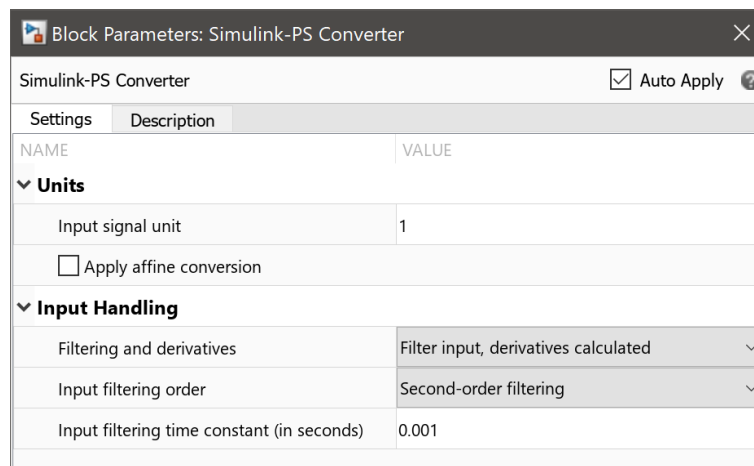

Figure 9: Simulink-PS Converter Parameters
11. Open the newly placed “Simulink-PS Converter” and change the “Input Handling” parameters to the following, as shown in figure 9, then apply the changes and close the block